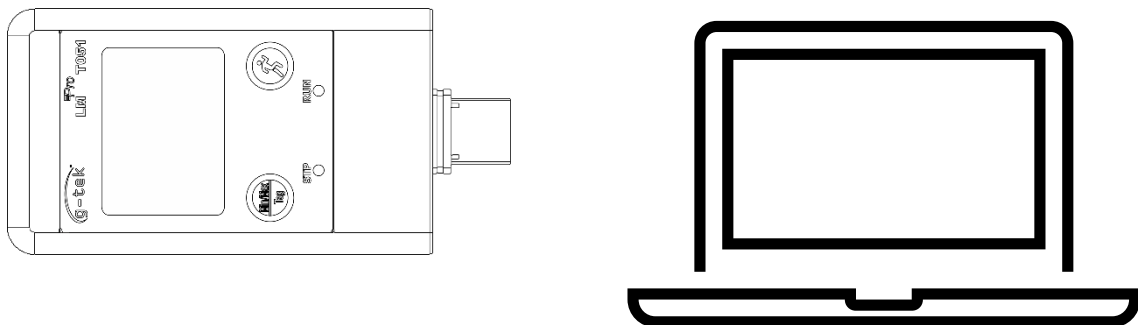

Figure 10 USB Type-A connection
- Connect the LMPro T051 data logger with Windows PC via the USB Type-A port, as shown in figure 10.